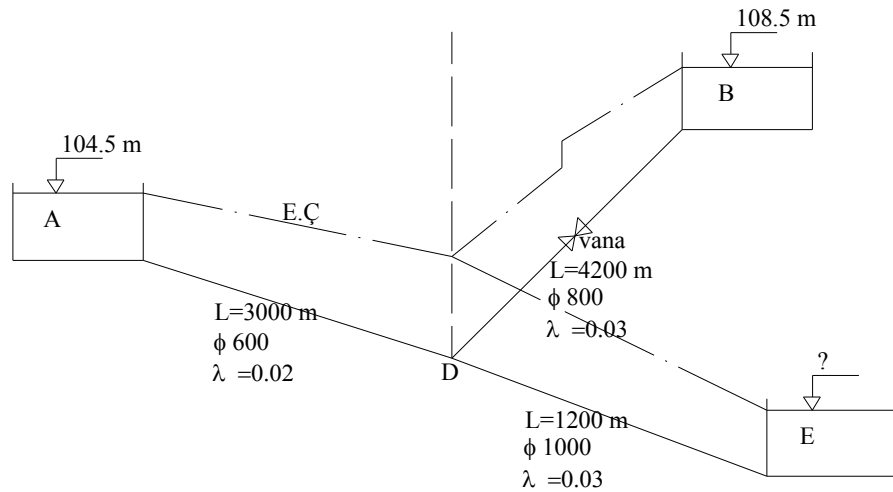

Figure 7.10
**Problem 7.10:** Determine the discharge at each pipe when the friction head loss in the pipe AD is 14 m in Fig 7.10 and find the elevation of the reservoir E, draw the energy grade line of the system.